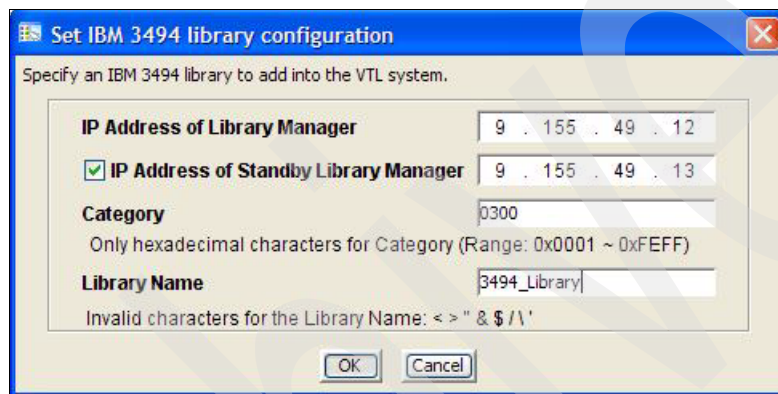

Figure 7-38 IBM 3494 library configuration using the VE console
3. Complete the following steps in the Set IBM 3494 library configuration window (Figure 7-38):